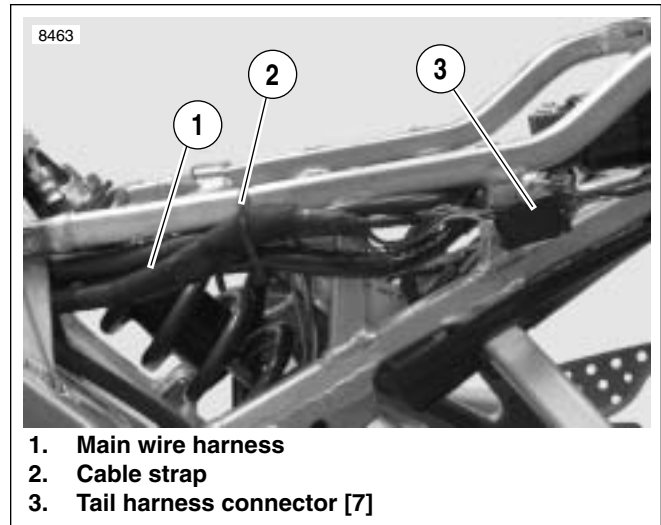
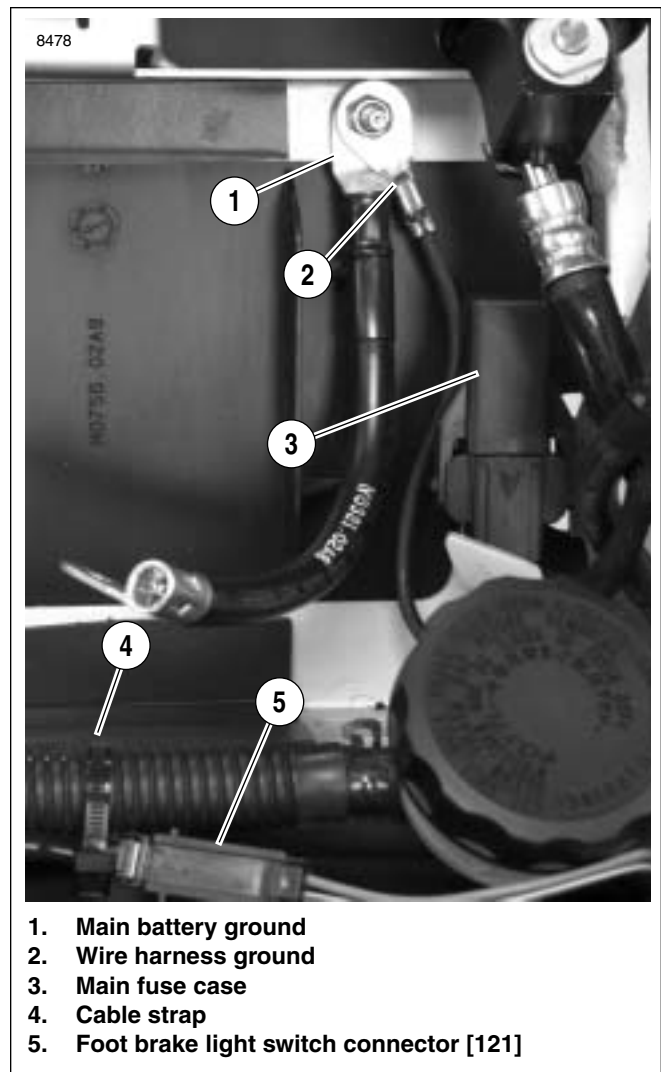

Figure 7-76. Tail Harness Connector
Figure 7-77. Battery Tray Wiring
7. See Figure 7-76. Disconnect tail harness connector [7] (3).
8. See Figure 7-77. Remove wire harness ground (2).
9. Remove main fuse case (3).
10. Disconnect foot brake light switch connector [121] (5).
23. See Figure 7-77. Connect foot brake light switch connector [121] (5). Install cable strap (4).
24. Install main fuse case (3).
25. Install main battery ground (1) and wire harness ground (2). Tighten fastener to 48-72 **in-lbs** (5.4-8.1 Nm).
26. See Figure 7-76. Connect tail harness connector (3). Attach cable strap (2).